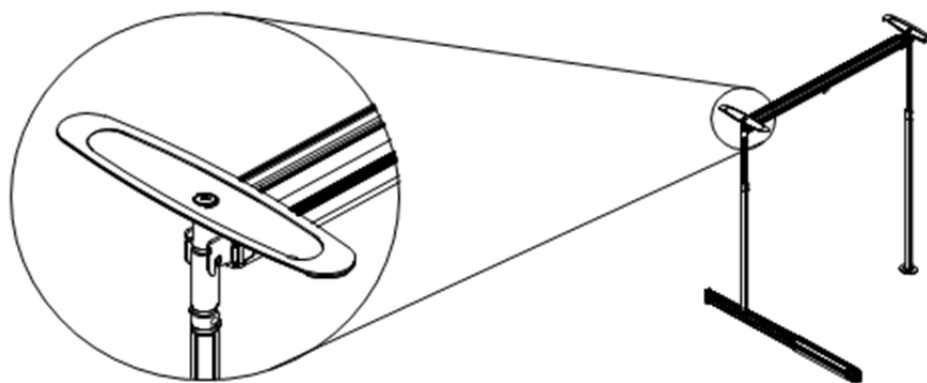

Figure 23
a) For the 2-post assembly, use the highest set of pins (see Figure 23).